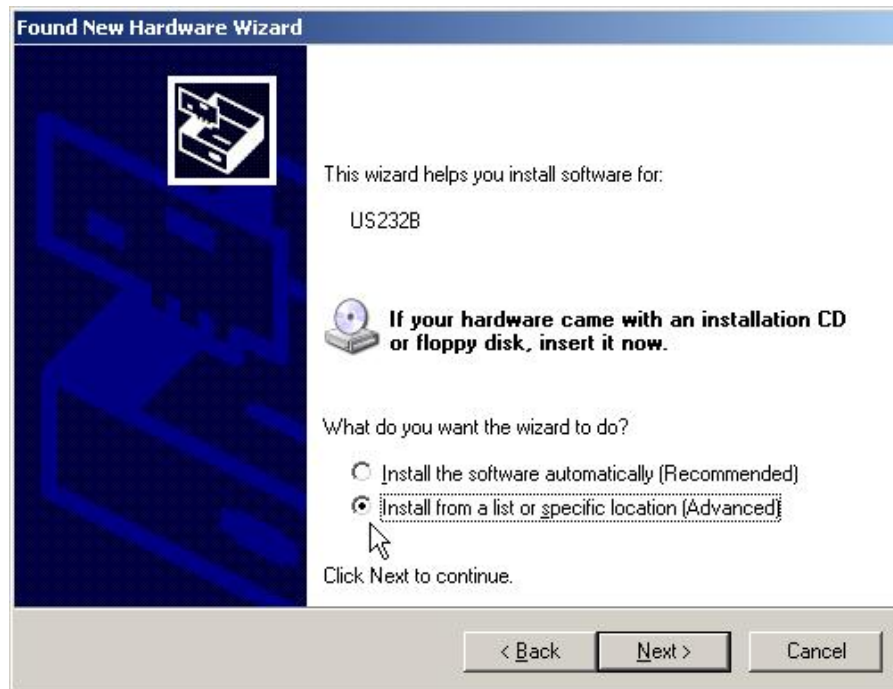

Fig. A.2
– Window (Fig. A.2) will appear on the display. Select «**Install from a list or specific location (Advanced)**» from the menu and click on the «**Next**» button.